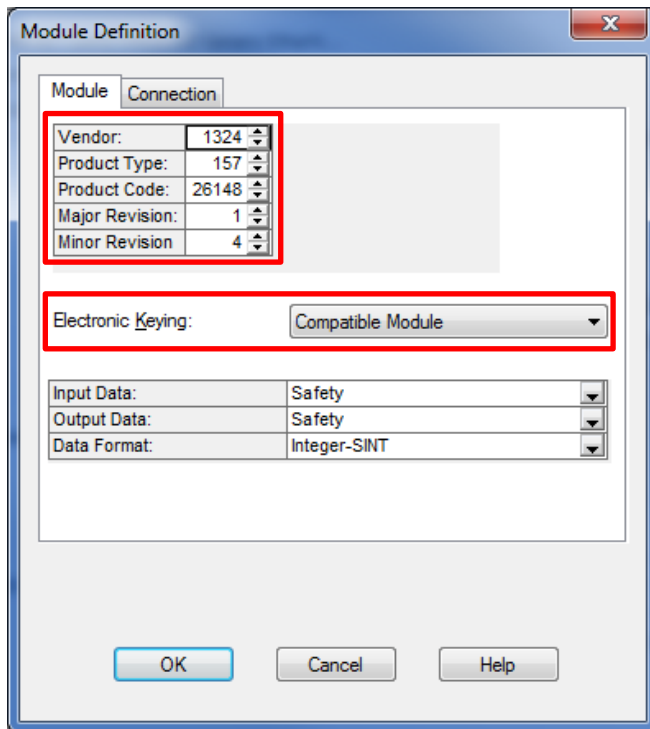

Figure 6
- Sometimes “Electronic Keying” in figure 6 have to be set to “Exact Match” instead of “Compatible Module”